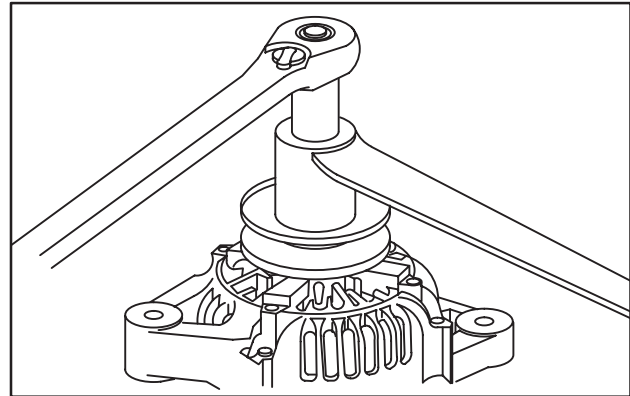

Fig. 21 – Remove Pulley
1. Remove pulley nut using tool #SST and 10 mm deep socket as shown in Fig. 21.